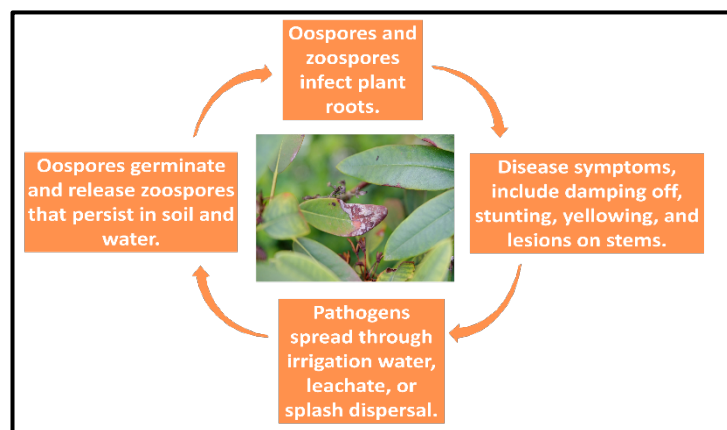

Figure 2. Example of *Phytophthora* infection and its lifecycle.
- Pathogens such as *Phytophthora*, *Phytophthium*, and *Pythium* are widespread in nursery soils, water bodies (e.g., dams and tanks) and irrigation systems, and can cause severe root and stem diseases (**Figure 2**).